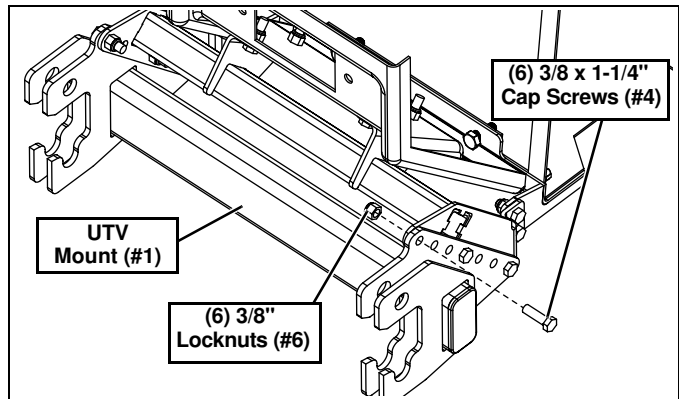

Figure 10
12. Secure UTV Mount (#1) with (6) 3/8"-16 x 1-1/4" Cap Screws (#4) and (6) 3/8"-16 Lock Nuts (#6). Tighten all hardware. (See Figure 10.)